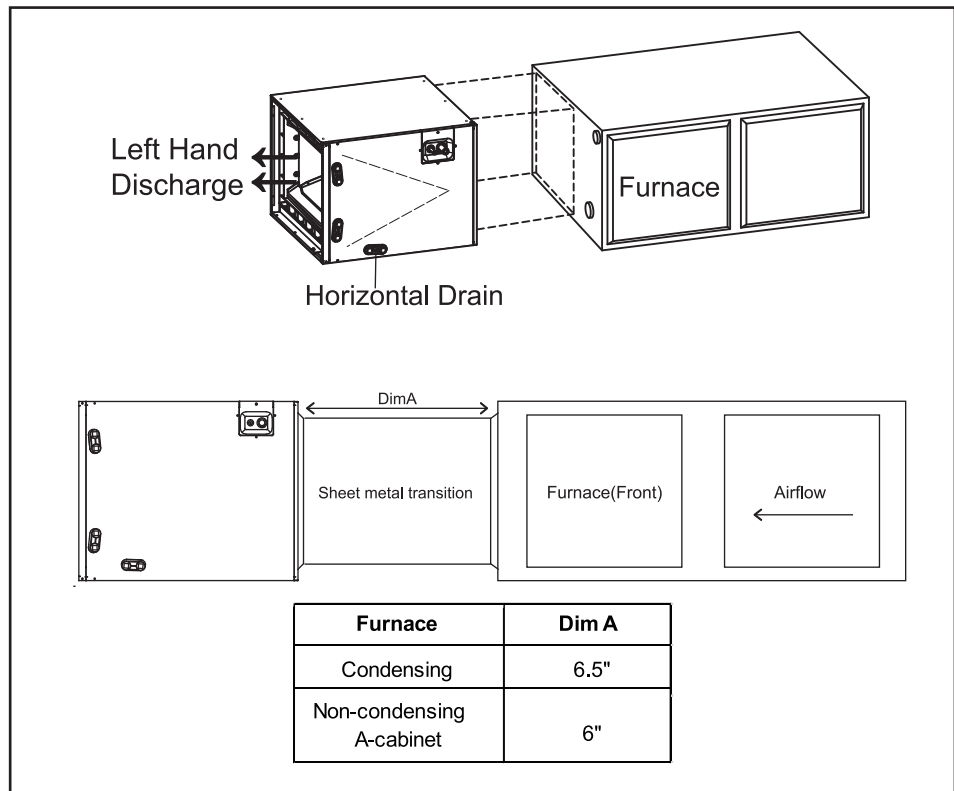

Figure 5. Transition for horizontal left orientation.
3. If the coil is used in connection with an upflow furnace in horizontal left orientation, a sheet metal transition can be installed between the furnace supply air outlet and the evaporator coil supply air inlet to create clearance between coil lineset and furnace flue outlet for A-cabinet non-condensing furnaces and for all cabinet size condensing furnaces. See Figure 5.
Install a trap in the drain line below the bottom of the drain pan. If using a copper drain line, solder a short piece of pipe to the connector before installing a drain fitting. DO NOT over torque the 3/4" copper connector to the plastic drain connection. Use a wet rag or heatsink material on the short piece to protect plastic drain pan, complete the drain line installation (Fig.5 ). Use (Fig.6) as a template for typical drain pipe routing. This figure shows how to avoid interference with vent piping.